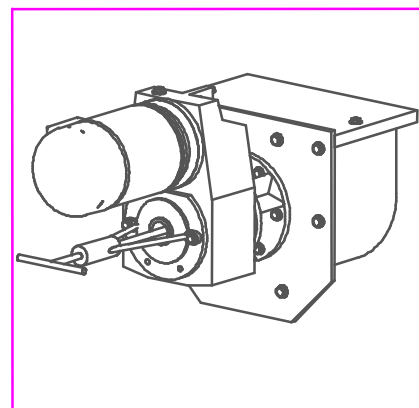

*Figure 5.4a - Remove the Locking Bolt, Spring Washer and Stepped Spacer*
4. Unscrew the locking bolt, spring washer and stepped spacer from the drive shaft, located at the rear of the gearbox (see fig. 5.4a).